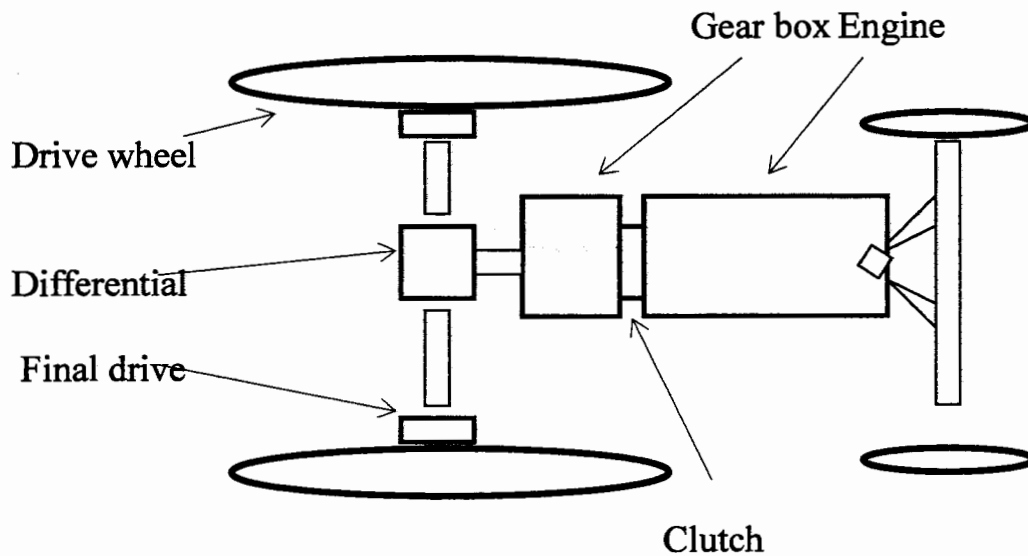

Figure 1 The drive train of a tractor power transmission.
- b) Figure 1 over the page shows the components of drive train of a tractor power transmission system. Table 1 shows the transmission data from the technical specifications of the operator's manual for the components in figure 1.